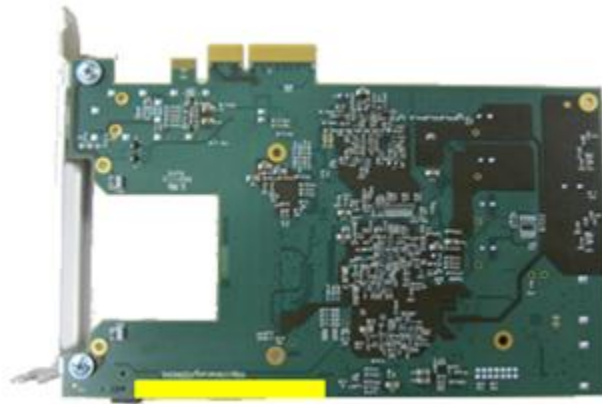

Figure 4: Barcode sticker position
- 1) Place the barcode sticker of the SPEC board under test on the position indicated in yellow by Figure 4. Plug the barcode reader into one available USB slot of the provided computer.